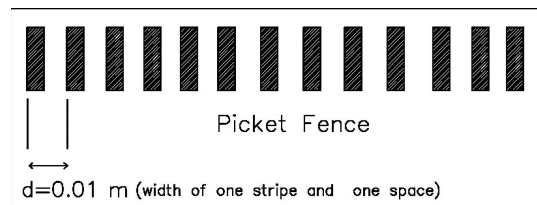

Figure 2
Consider the system shown in Figure 2. We shall neglect for now the rotational motion of the pulley, the frictional force acting on the system, and the mass of the string connecting the two masses m and M . Applying Newton's second law to the motion of m gives
2. The experiment uses a photogate to measure the motion of an object with uniformly spaced flags, which are normally provided by the black stripes of a picket fence mounted on the object whose motion is being studied. Set up the apparatus as shown in Figure 2. Make sure that the picket fence and track are free of dust and dirt, and that the mark on the picket fence are aligned with the photogate. If needed, ask for assistance from your laboratory instructor.